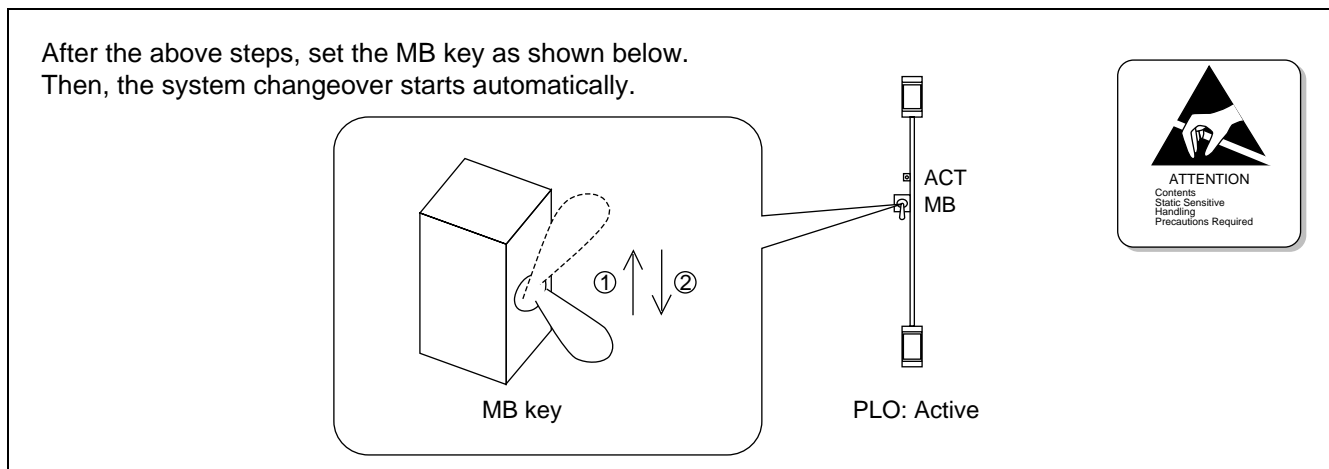

Figure 6-55 PLO Changeover via MB Key
STEP 2 Flip the MB key on the PLO card. Refer to Figure 6-55.